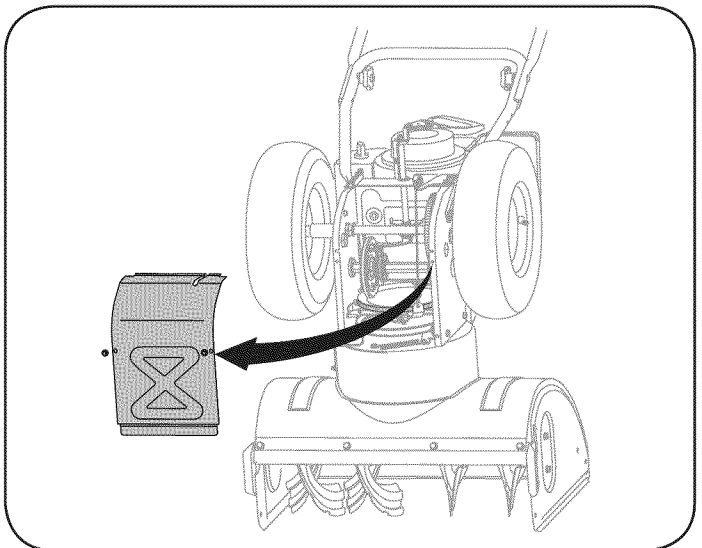

Figure 24
5. Remove the frame cover from the underside of the snow thrower by removing four self-tapping screws which secure it. See Figure 24.
5. Remove the frame cover from the underside of the snow thrower by removing the self-tapping screws which secure it. Refer to Figure 24.